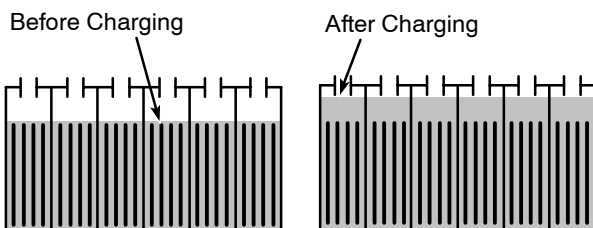

FIG. 31
1. Check battery fluid level frequently to prevent battery damage. The fluid should be at the level shown (Figure 31). Add distilled water if low. **DO NOT OVERFILL**, the fluid may expand and overflow when charging.